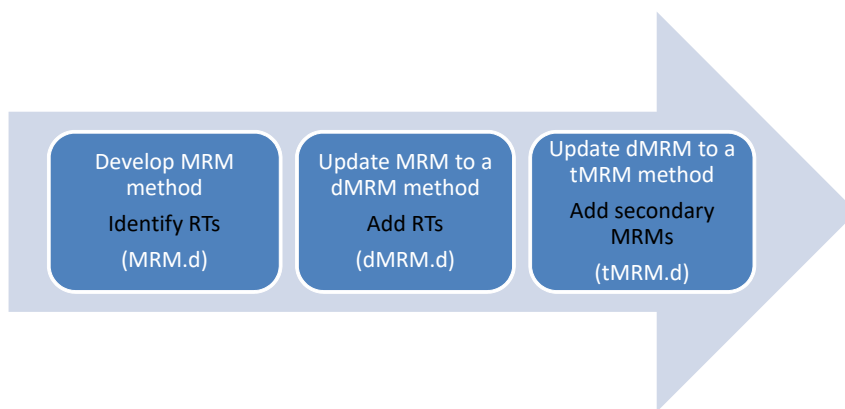

Figure 1. MRM to dMRM to tMRM Method Development Workflow for single standard mix
Figure 1 summarizes the workflow, which includes incremental method development from MRM, over to dynamic MRM (dMRM) to triggered MRM (tMRM) methods, including identification of retention times (RT), trigger parameters, and secondary transitions.